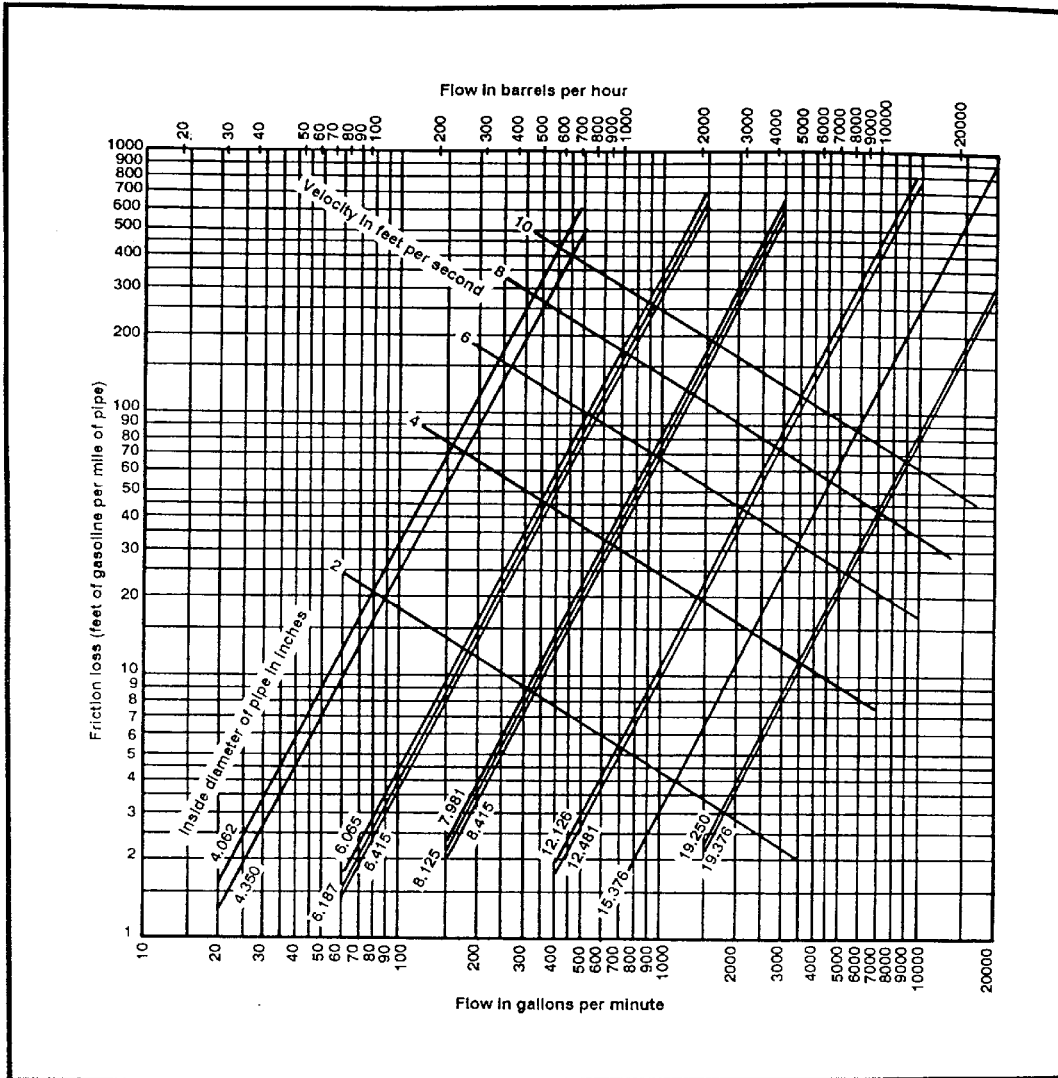

Figure 2-1. Head loss due to friction.
**Friction Loss Graph:** The friction loss graph is an expedient method of obtaining friction loss per mile of pipe in military pipelines. Although the results are not exact, it is close enough and is a much faster way than using the Darcy Weisbach equation. The basic graph (Figure 2-1) contains the following information. Barrels per hour top horizontal line. Gallons per minute bottom horizontal line. Friction loss per mile of pipe left vertical line. The other lines on the graph represent pipe diameter in inches and velocity of the fuel in feet per second. The graph has been constructed using MOGAS at 60° F as the design fuel, Kinematic viscosity of 8 x 10 minus 6 ft per sec and absolute roughness of 0.00015. For this reason you must use a correction factor for fuels other than MOGAS and at temperatures other than 60° F.
Using Figure 2-1, given a flow rate of 700 gallons per minute and a pipe diameter of 8.415 inches: enter the graph at the lower right hand corner and move to the left to 700 gallons per minute. Move up the graph until you locate the pipe diameter (8.415). Read to the left and read 33 feet. This means that for every mile of pipe you will lose 33 feet of head. If the pipeline was 10 miles long you would lose 330 feet of head.
**Correction Factor.** To determine the friction head loss for fuels other than MOGAS at 60° F, it becomes necessary to correct the value obtained from Figure 2-1. Table 2-1 contains correction factors for all military fuels at temperatures ranging from -20° F to 80° F.
**STEP 1:** Determine the true gradient (400 BPH and 6.415 inch pipe) using Figure 2-1.  $H_g = 24 \text{ ft/mi}$